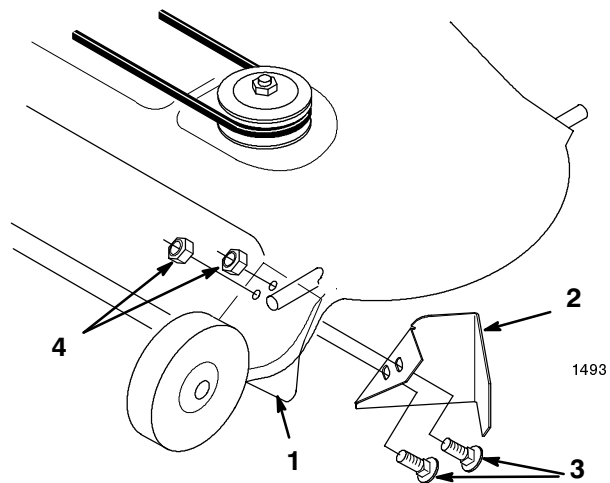

Figure 6
4. On 48" decks, secure with two 5/16" x 1" (25 mm) carriage bolts and 5/16" lock nuts (Fig. 6).